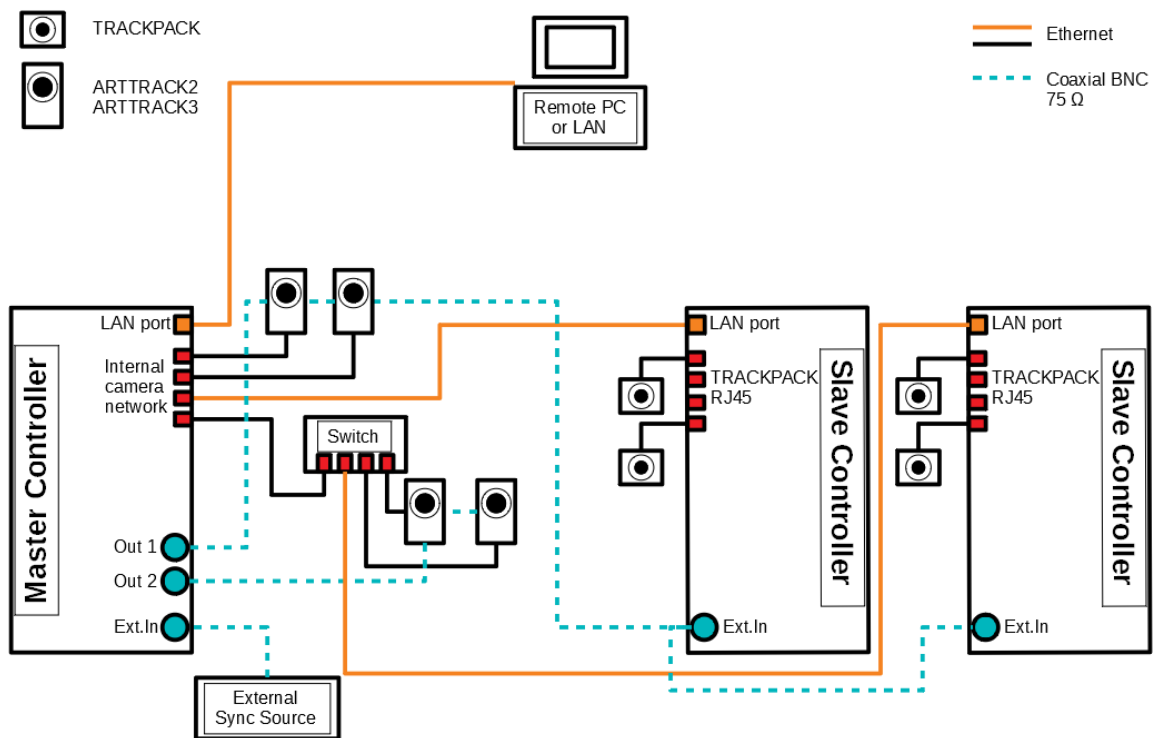

Figure 5.25: Principle of cascading using the internal camera network (discontinued)
**Option 4 - using the internal camera network (*ARTTRACK* Controllers (discontinued) only)** Connect the data output '*LAN network port*' of the slave controller(s) to the *ART Synccard2* camera network of the master. All slave controllers have to be synchronized with the master controller via a BNC coaxial connection, see fig. 5.25 on page 73.